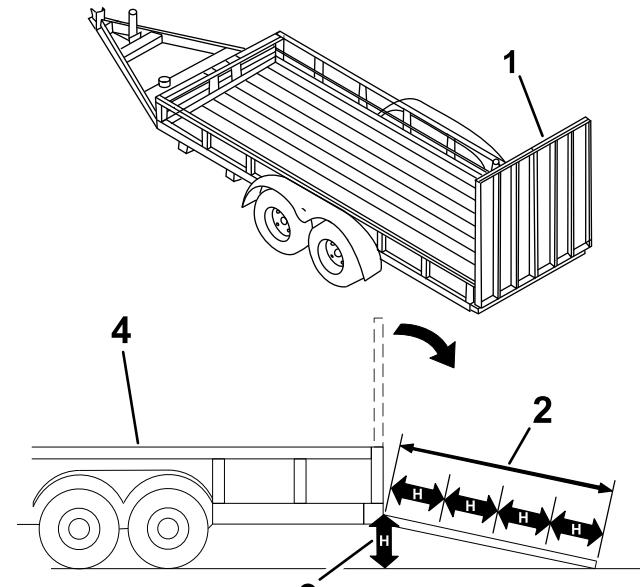

Figure 36
3. Lower the ramp (Figure 36).